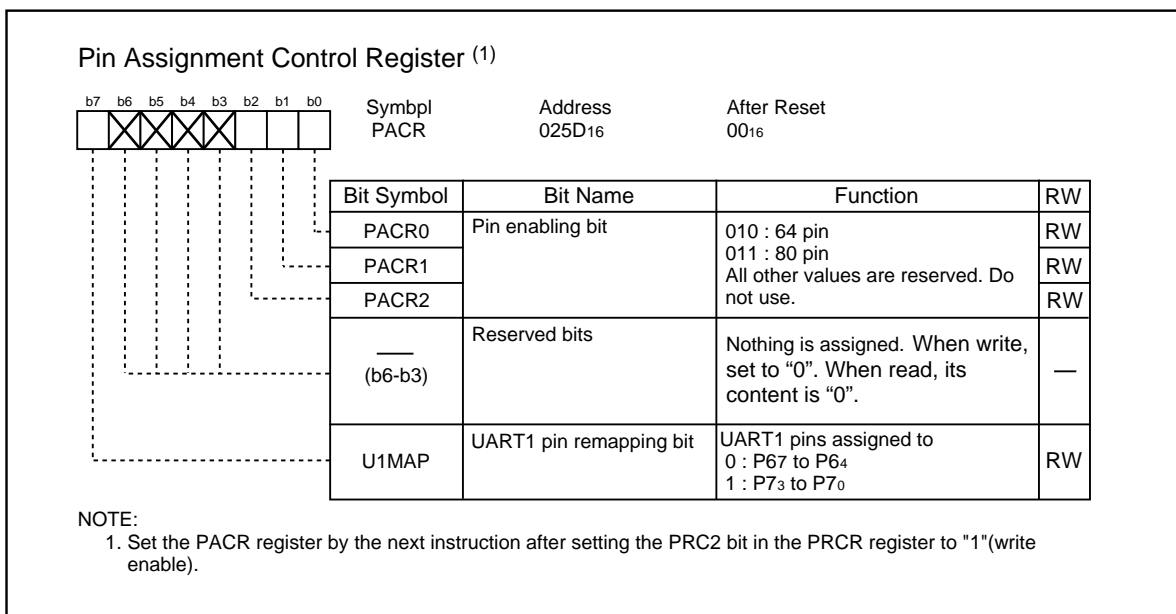

Figure 17.10 PACR Register
**Figure 17.10** shows the PACR register. After reset, set bits PACR2 to PACR0 in the PACR register before a signal is input or output to each pin. When bits PACR2 to PACR0 are not set, some pins do not function as I/O ports.